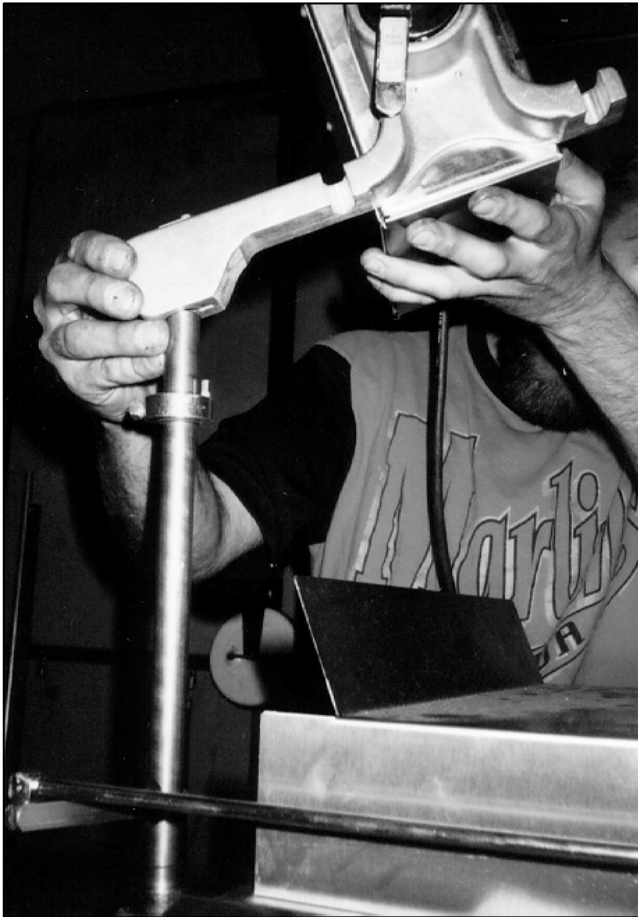

Figure 1-7. Mounting the Cutter Head Assembly.
1. Set the cutter head assembly onto the swing column. See Figure 1-7.